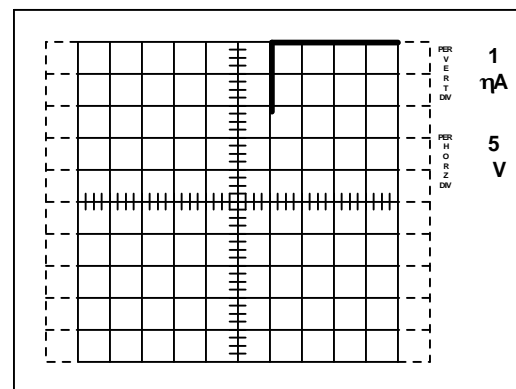

Figure 6. Gate-source leakage current at -20 V
10. The above procedure is for determining gate leakage current with a positive gate voltage. To make the same measurement using a negative voltage, reduce the VARIABLE COLLECTOR SUPPLY voltage to zero, change the POLARITY switch to the PNP position, and reapply the voltage (see Figure 6). The trace will take time to settle because of the gate-source capacitance.